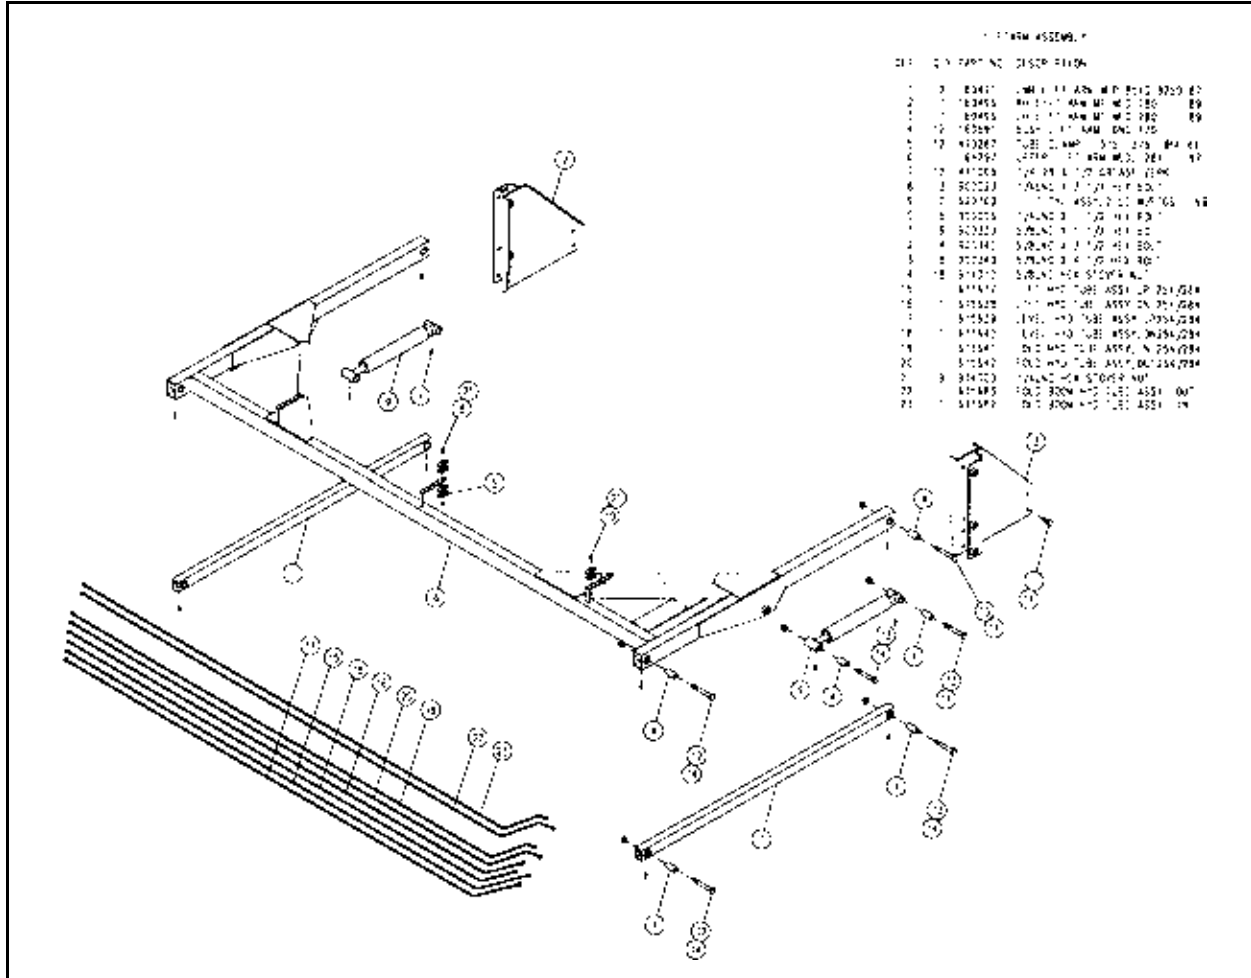

FIG 4.9
1. First, attach right hand (fig. 4.9, items 2) and left hand (fig. 4.9, items 3) lift arm mounts and tighten all bolts.
2. Install upper lift arm weldment (fig. 4.9, item 6) to lift arm mounts using proper bushings and bolts provided.
3. Install two lift cylinders (fig. 4.9, item 9), using correct bushings and bolts.
4. After installing the lift cylinders, install two lower lift arm weldments (fig. 4.9, item 1), using correct bushings and bolts.